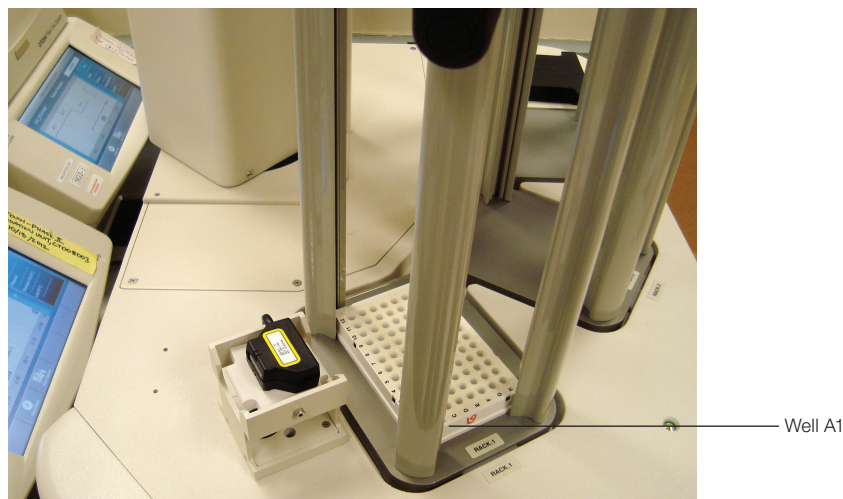

Fig. 20. Plate well A1 faces outward.
If using Bio-Rad's Microseal® 'B' optical seals, peel off the seal end tabs after sealing the plates. Place the plates in the source rack. The source rack can be identified by the tab name on the plate list page, for example Rack 1. Well A1 should face out toward the exterior of the plate handler (Figure 20).
- Plates are placed with well A1 facing outward, away from the plate handler tower (Figure 20)